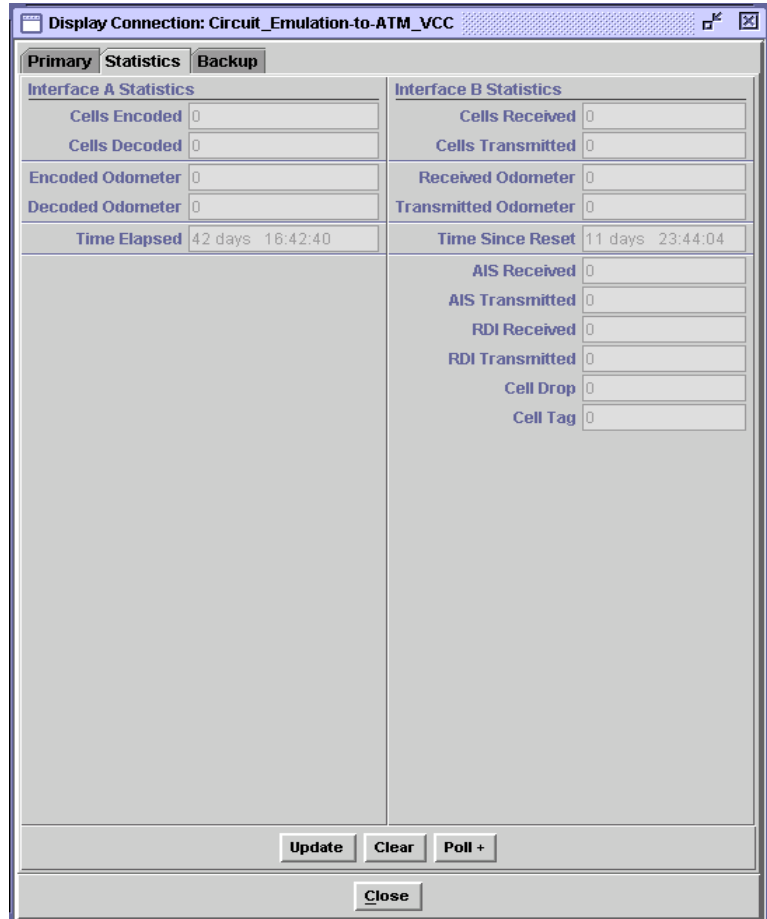

Figure 8-16. Display Connection: Circuit\_Emulation-to-ATM\_VCC (Statistics Page)
**Statistics Page** The Statistics page displays the statistics for this connection (see Figure 8-16).